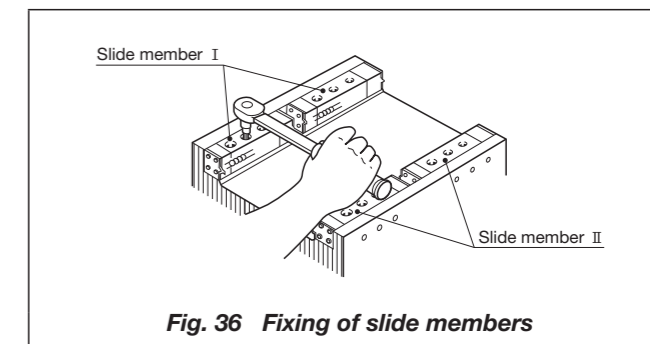

Fig. 36 Fixing of slide members
- Tighten the mounting bolts and fix the slide member I to the table while correctly fitting the reference mounting surface of the slide member to the mating reference mounting surface of the table. Temporarily fix the slide member II. (See Fig. 36.)